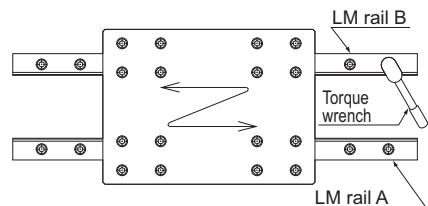

Fig.28
- (4) Slide the table a few strokes to fit the LM blocks to LM rail B, then fully fasten LM rail B using a torque wrench. (Fig.28)